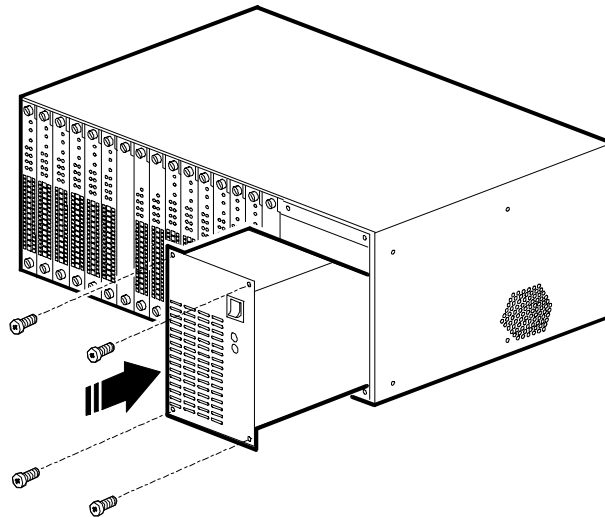

Figure 2-12. Inserting and Securing the Power Supply
3. While grasping the handle on the front of the power supply with one hand and supporting the bottom of the supply with your other hand, align the power supply with the metal guides of the power supply slot. See Figure 2-12.
5. One at a time, insert each of the four Phillips screws through the threaded holes in the front of the power supply. Tighten using a Phillips screwdriver. See Figure 2-12.